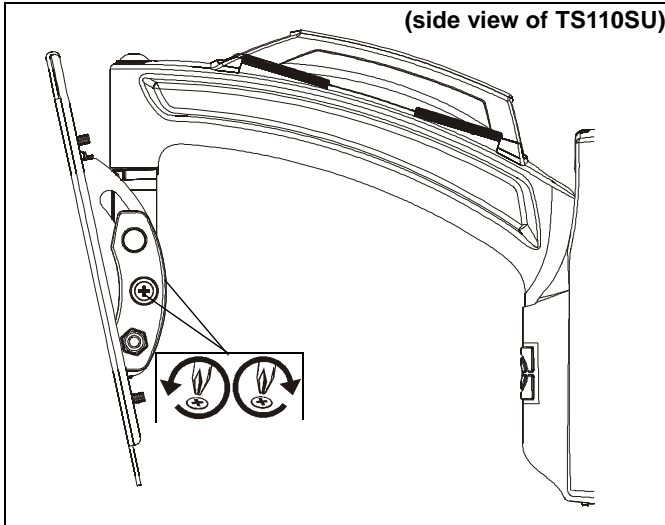

Figure 13
1. Adjust tilt friction adjustment screws to increase or decrease tilt friction. (See Figure 13)